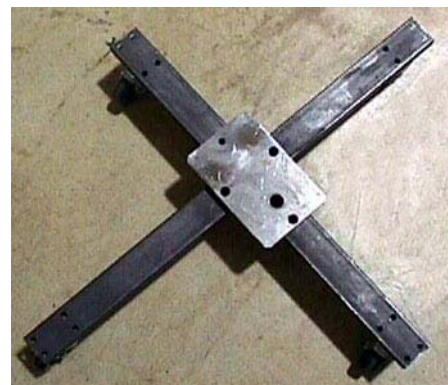

Figure A-5 Front Cover Dolly base and stand disassembled
- 1.) Arrange Dolly sections for assembly. The base and stand can be assembled only one way. Refer to Figure A-5.
- 2.) Unfold the base as shown in Figure A-5 and place on flat surface.